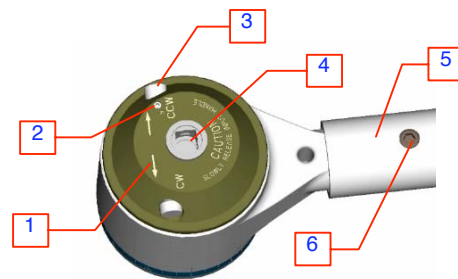

Figure 2. Input Detail
- 6.6 Apply torque with torque wrench until desired input torque is achieved. **To remove torque multiplier from fastener:** Apply enough input torque to release internal anti-backlash device, then push selector pawl (Fig. 2, Item 3) into opposite position (EXAMPLE: If selector pawl is in the clockwise CW position for tightening, apply input torque in the CW direction to relieve force on the pawl. While maintaining input torque in the CW direction, slide pawl into the CCW direction for release) and slowly relax input torque. Never strike selector pawl to release or change directions. (See **▲ Warnings**)
- 7.1 If you decide to use a **non-impact** power drive to speed up the process of tightening or loosening fasteners, you **MUST** remember to lock the selector pawl in the neutral position. Center the selector pawl (Fig. 2, Item 3) between the CW/CCW range of the travel and tighten the setscrew (Fig. 2, Item 2). When properly positioned, the screw will be seated in a groove in the selector pawl, so the pawl cannot be moved in either direction. Take care that the power drive is set to deliver no more than the maximum allowable input torque. See Torque Multiplier Application Tips for additional power drive information.